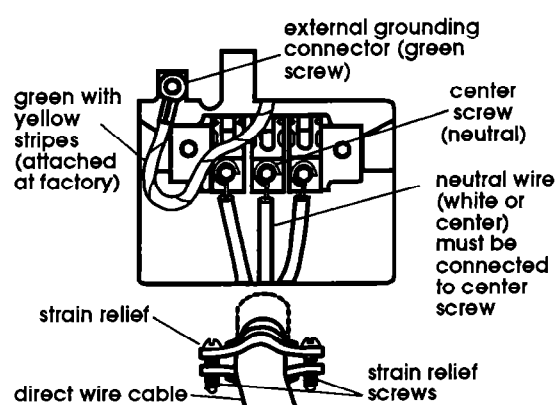

Figure 18
6. Connect the other wires to the outer terminals using the same method (Figure 18).